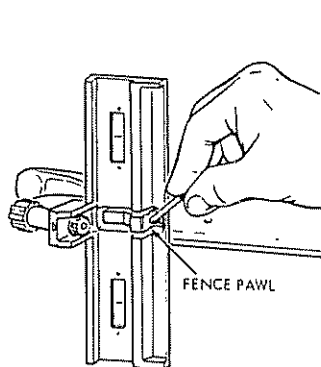

Figure 25
- (1) Remove the fence and turn it over. Then, with a 1/8-inch hex-L wrench, loosen the pawl set screw, located just behind the fence pawl, approximately two turns. (See figure 25.)